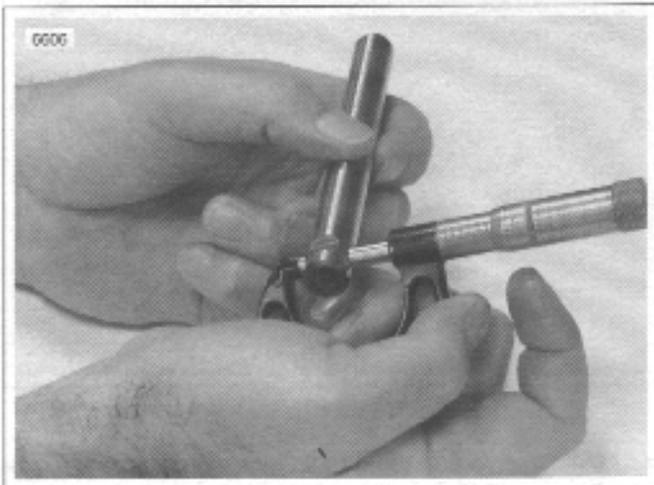

Figure 3-69. Measuring Rocker Arm Shaft Diameter (Rocker Cover Position)
- a. See Figure 3-69. Measure where shaft fits in lower rocker arm cover.